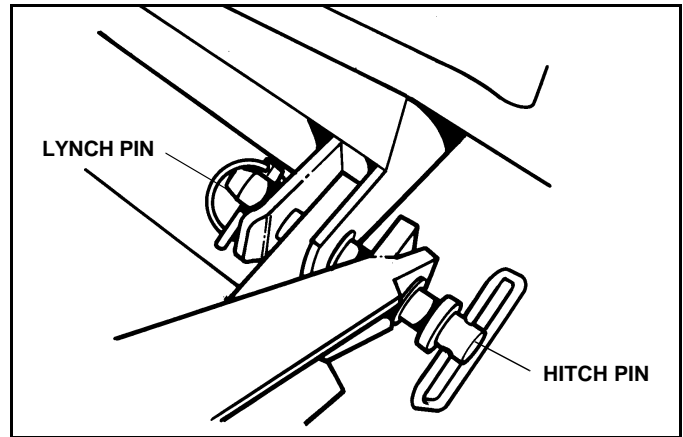

Figure 1-6
9. Remove the two (2) lower, outboard Pivot Hitch Pins. See Figure 1-6.